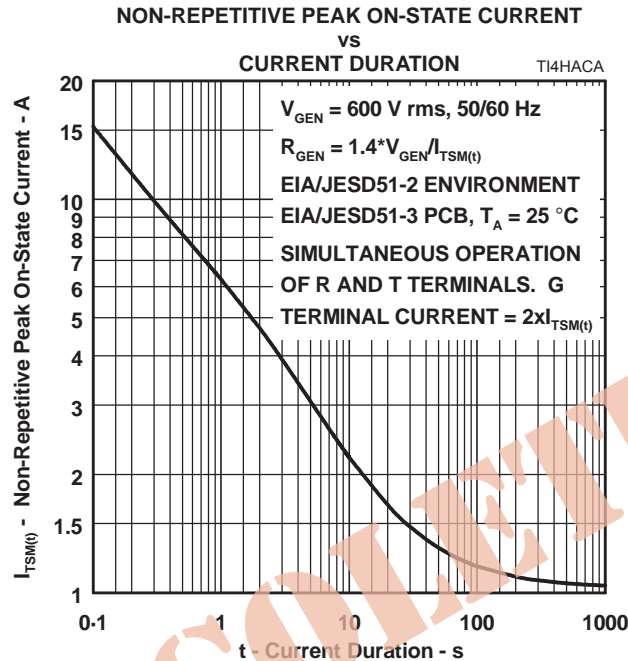

Figure 8.
5. EIA/JESD51-2 environment and EIA/JESD51-3 PCB with standard footprint dimensions connected with 5 A rated printed wiring track widths. See Figure 8 for the current ratings at other durations. Figure 8 shows the R and T terminal current rating for simultaneous operation. In this condition, the G terminal current will be $2 \times I_{TSM(t)}$, the sum of the R and T terminal currents. Derate current values at $-0.61\% / ^\circ\text{C}$ for ambient temperatures above 25°C .
The protector can withstand the G return currents applied for times not exceeding those shown in Figure 8. Currents that exceed these times must be terminated or reduced to avoid protector failure. Fuses, PTC (Positive Temperature Coefficient) resistors and fusible resistors are overcurrent protection devices which can be used to reduce the current flow. Protective fuses may range from a few hundred milliamperes to one ampere. In some cases, it may be necessary to add some extra series resistance to prevent the fuse opening during impulse testing. The current versus time characteristic of the overcurrent protector must be below the line shown in Figure 8. In some cases, there may be a further time limit imposed by the test standard (e.g. UL 1459 wiring simulator failure).